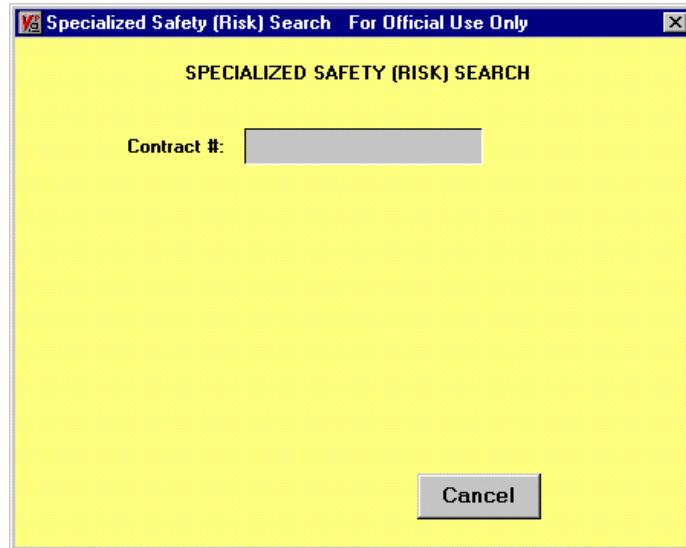

Figure 41-2 Specialized Safety-Risk Assessment Search Pop-Up Window
1. Click the **Search** icon on the tool bar or select **File: Open** from the menu bar. When you do, a Search window (Figure 41-2) appears.